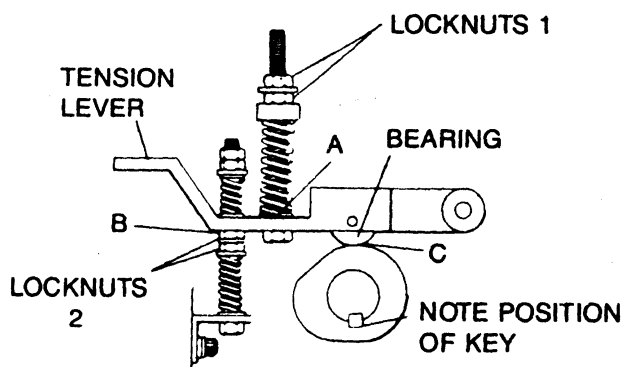

FIGURE 25. ADJUSTING TENSION LEVER
1. Manually turn the rotor of the electromagnetic clutch until the key, seen at the end of the cam shaft, is positioned as shown in Figure 25